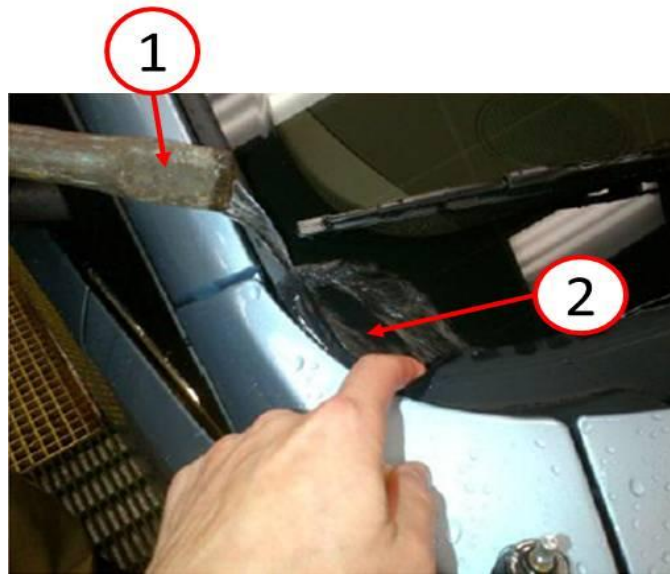
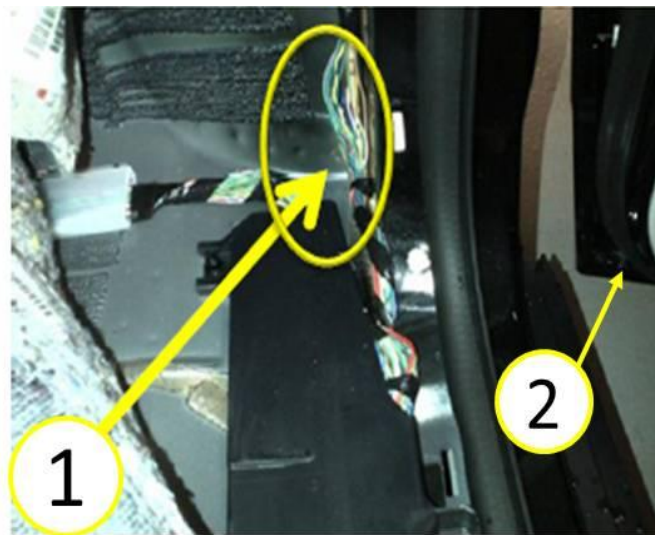

Fig. 1 Water Leak Test
Fig. 2 Front Floor
2. Apply a steady flow of water at the cowl screen/fender/windshield area (Fig. 1) for 60 seconds and evaluate the kick panel area (Fig. 2). Did water begin to enter the vehicle?